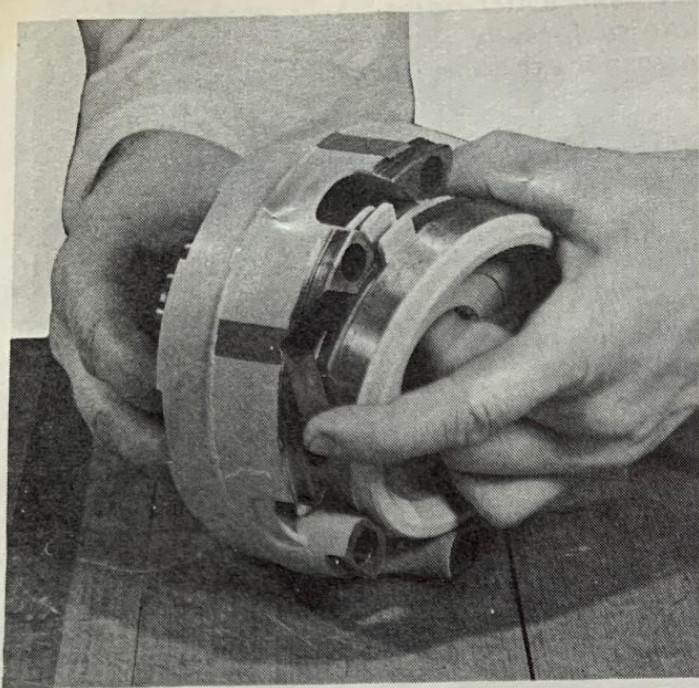

Fig. 11
4. Hold each Differential Case half on its side, install the side gear rings with the friction plates and friction discs assembled. The side gear ring will rotate with a slight drag when properly located in the case. (See Fig. 11.)